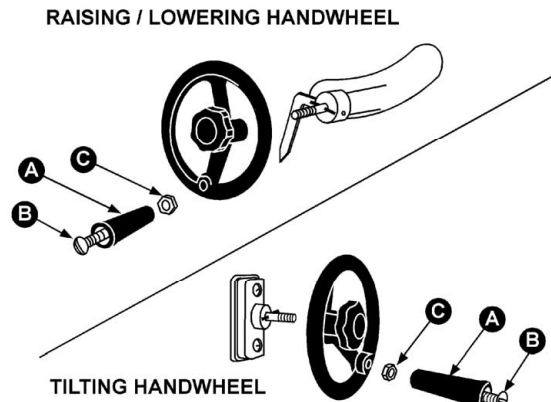

Figure 10
1. Attach handwheel knob (A) by inserting screw (B) through hollow knob and into the 3/8" lock nut (C). See Figure 10. Lightly screw assembly into handwheel.
2. Tighten the nut (C) to the handwheel just enough so that there is adequate looseness in the knob (A) to allow free rotation.
3. Attach the elevating and tilting handwheels with lock knobs to the elevating and tilting screws on the machine, as shown in Figure 10. Make sure the slot in both handwheels engages with the roll pins in the elevating and tilting screws.